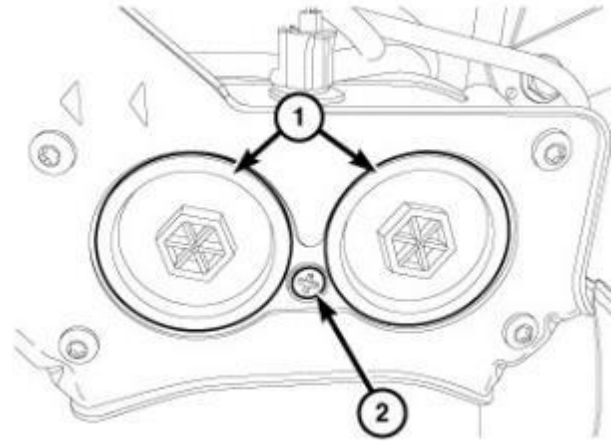

Figure 49 – Drain Plug
- 91. Loosen the drain plug (2) and drain the diesel fuel into a suitable container (Figure 49).
- 92. Securely tighten the drain plug (2).